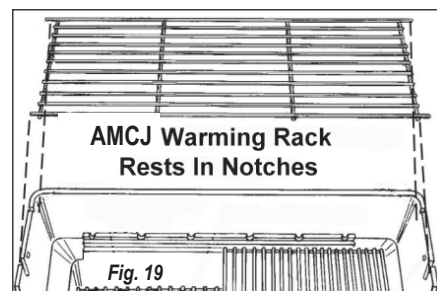

Fig. 19
1. The AMCJ Warming Rack rests in the notches on the top edge of the grill head bottom. (Fig. 19)
## CONNECTING THE LP CYLINDER (Fig. 19)
Install the gas cylinder in the back of your grill, with the open side of the tank valve collar pointing towards the square hole in the tank enclosure. Ensure that all hoses, fittings and regulators are properly protected from heat and accidental damage. Hoses can be burned or chaffed if routed improperly. (See Hose and Regulator, page 3). Be sure all burner control valves on the grill are turned "OFF". To connect hose and regulator to cylinder turn coupling nut clockwise as shown in diagram below (Fig. 19). (To remove the quick connect coupling nut, turn counter clockwise). Your MHP Grill comes with a Type I connector, also known as a "Quick Connect Valve" connection. It has a large plastic (coupling nut) that screws onto the propane tank gas outlet. **Note: Your MHP Grill does not come with a propane tank. Therefore, be sure the tank you purchase has this type of hook-up. Also, the cylinder you use must be equipped with a listed overfilling protection device. This can be identified by the triangular hand wheel. (See diagram below and page 5 of these instructions).**